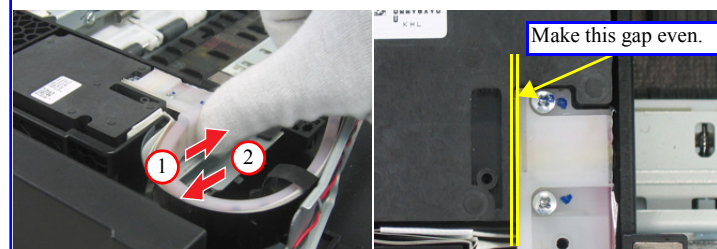

Figure 4-66. Assembling the Printhead (6)
- 9-3. To make the gap even between the joint of the Printhead and the Ink Supply Tube, move your finger to the right and then to the left while pressing the side of the Ink Supply Tube shown in Fig. 4-66 gently toward the rear of the printer.